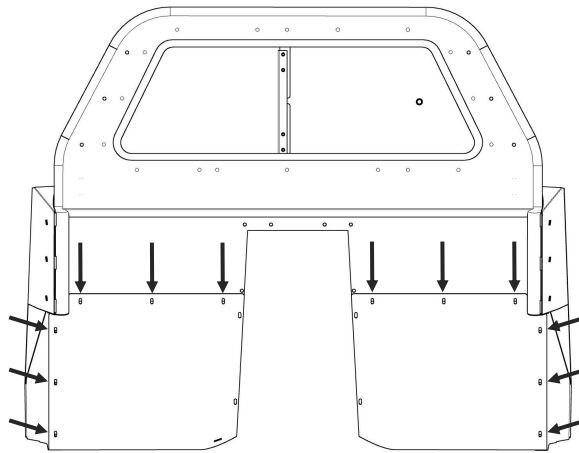

Figure 4
- A. Remove the (6) fasteners holding the cover plate to the middle of the partition. Set the fasteners aside and discard the cover plate.
- B. Place one of the Lower Extension Panels [3LEP572112] into the second row footwell near the center of the vehicle. With the panel against the sheet metal of the partition, slide the Lower Extension Panel towards the outside of the vehicle. Align the (3) holes at the top of the panel and the (3) holes along the outside of the panel with their respective holes in the partition and the mounting plate (Figure 4).
- C. Loosely install a carriage bolt [3X36] with whiz nut [3X16Z] into each of the (6) holes identified in the previous step. Install the fasteners such that the smooth head of the carriage bolt is facing towards the rear of the vehicle.
- D. Repeat on the driver side with the second Lower Extension Panel [3LEP572112], (6) more carriage bolts [3X36], and (6) more whiz nuts [3X16Z].